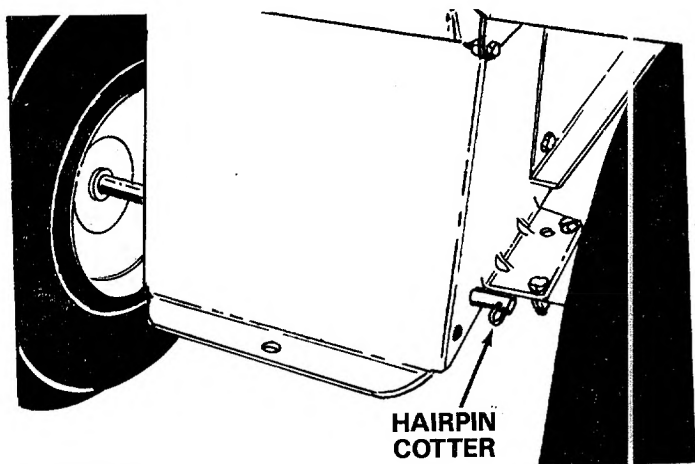

FIGURE 4
3. Remove the two hairpin cottes from the shaft on the rear of your tractor. See figure 4. These will be reassembled in steps 4 and 8.